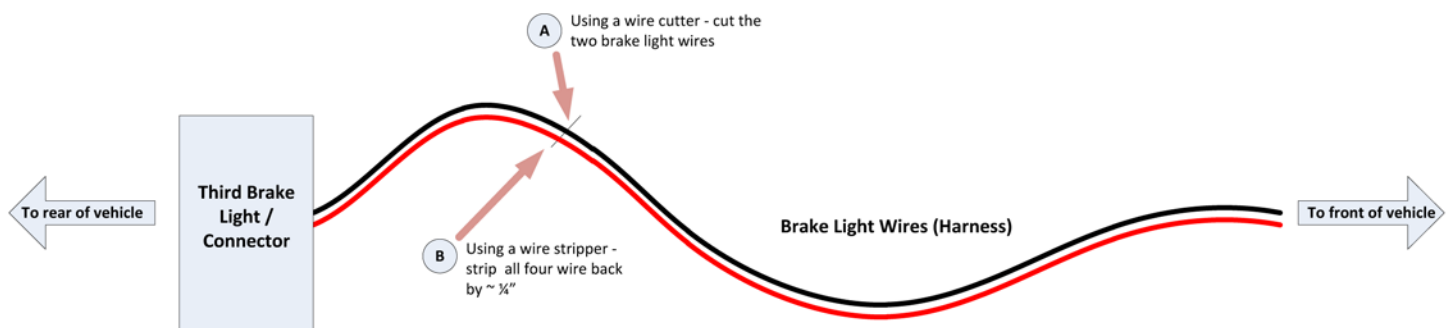

Figure 4 – Cut and strip brake light wires
- 4.) Cut the third brake light wires as shown in **Figure 4 - Steps A and B**